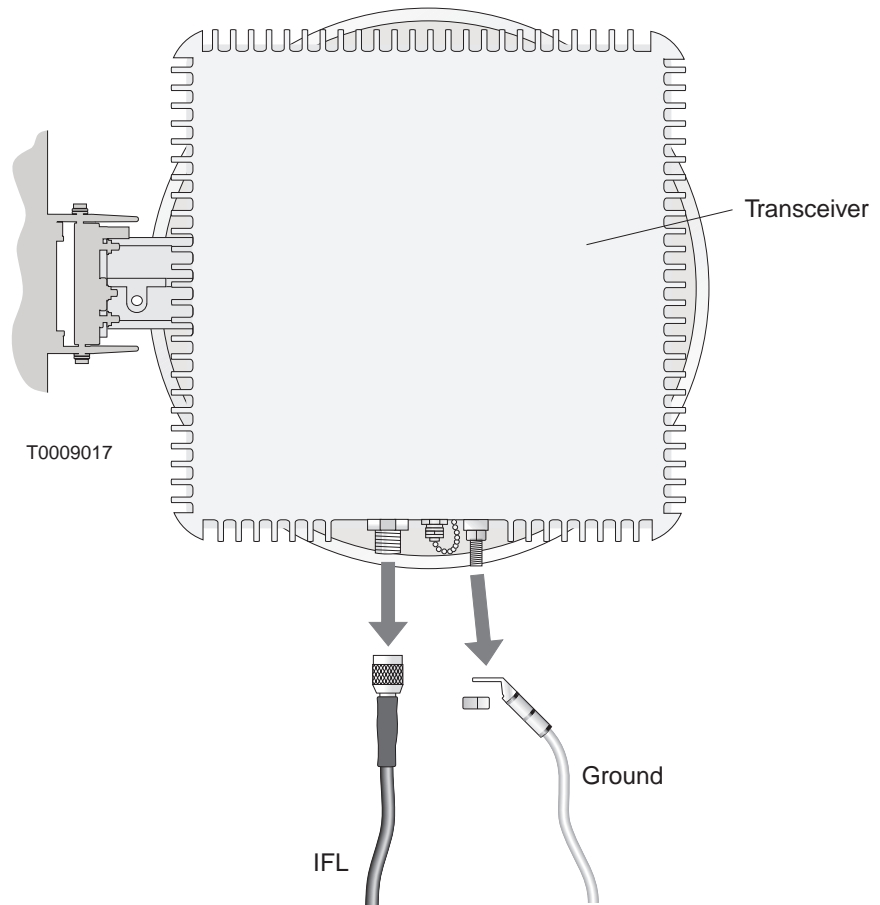

Figure 10-1 Disconnecting the ODU ground and IFL cables
3. *On the roof:* Disconnect the ground cable and IFL from the ODU transceiver, as shown in figure 10-1.